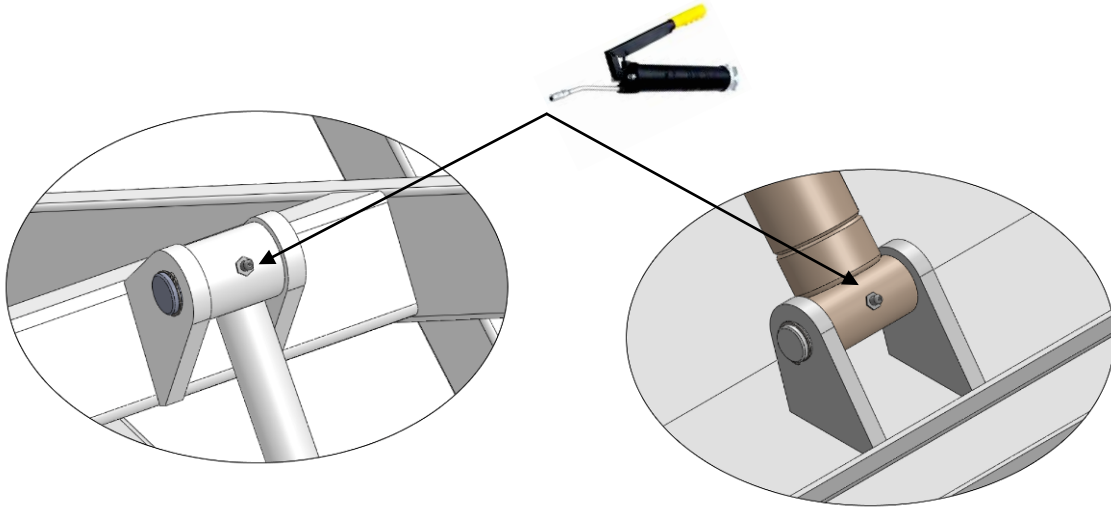

Fig.24
1. Lubricate all moving parts with lubricant. Fig.24